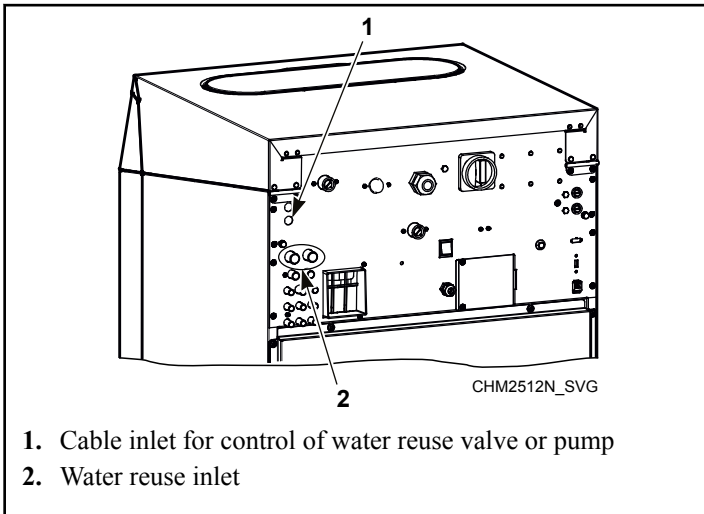

Figure 21
1. Drill out the protective screens of the water reuse inlet using a drill bit of 0.59 in. [15 mm] diameter. Refer to *Figure 21*.
3. Fit a cable bushing into the opening, and pull the cable through the bushing. Refer to *Figure 21*.